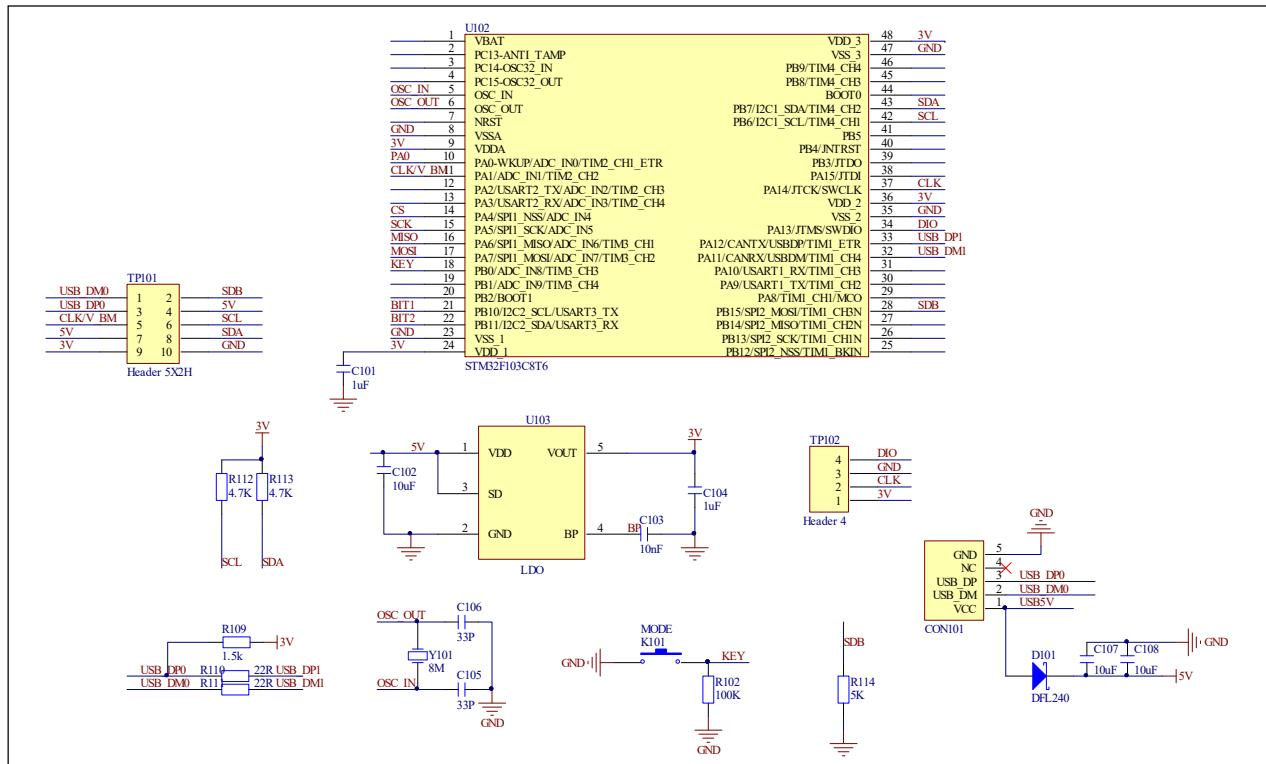

Figure 5: MCU Board Schematic
*Bill of Materials, refer to Figure 5 above.*